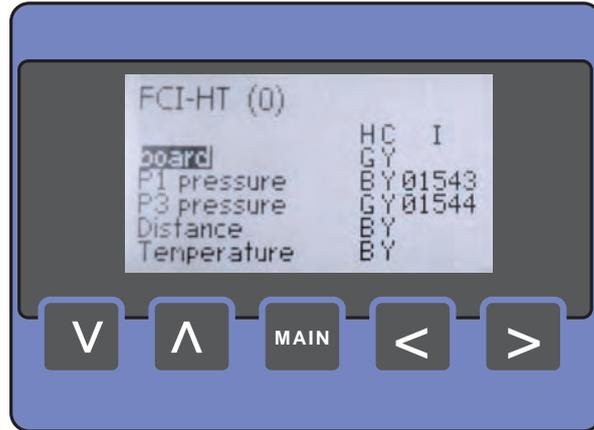

FIGURE 4-14
- The [\[function list\]](#) screen (see FIGURE 4-14) displays all configurable entities of a function. The actual entity value is visible as well. You can *navigate through the board list* by using the up or down button. A function can be selected by simultaneously pressing the left + right button. You can return to the [\[board list\]](#) screen by pressing the left button.